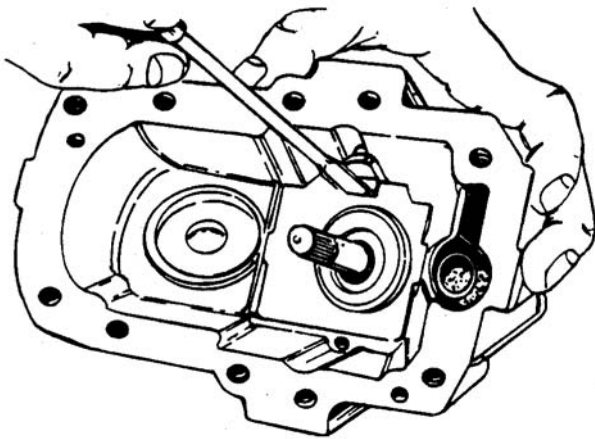

Figure 6-49. Install Swashplate
- c. Place swashplate into housing keeping slot guide from moving with screwdriver. See Figure 6-49.